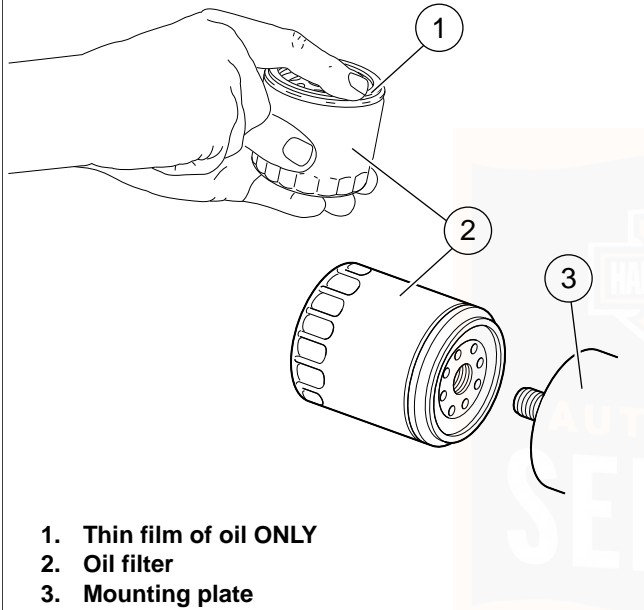

Figure 44. Applying Thin Oil Film
7. See Figure 44. Lubricate gasket with clean engine oil and install **new** oil filter on filter mount. Hand-tighten oil filter one-half to three-quarters of a turn after gasket first contacts filter mounting surface. Do NOT use oil filter wrench for installation.